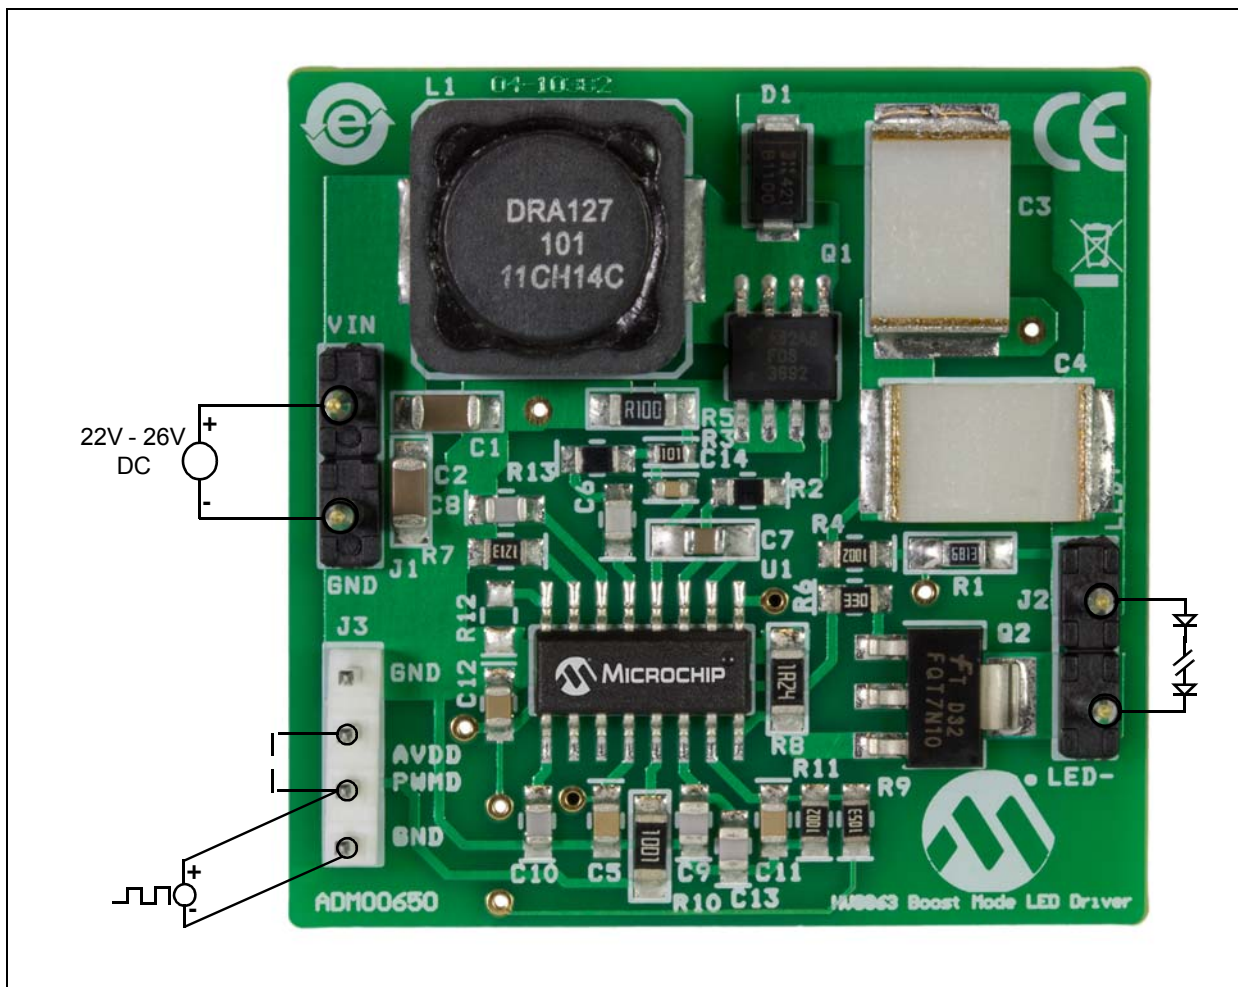
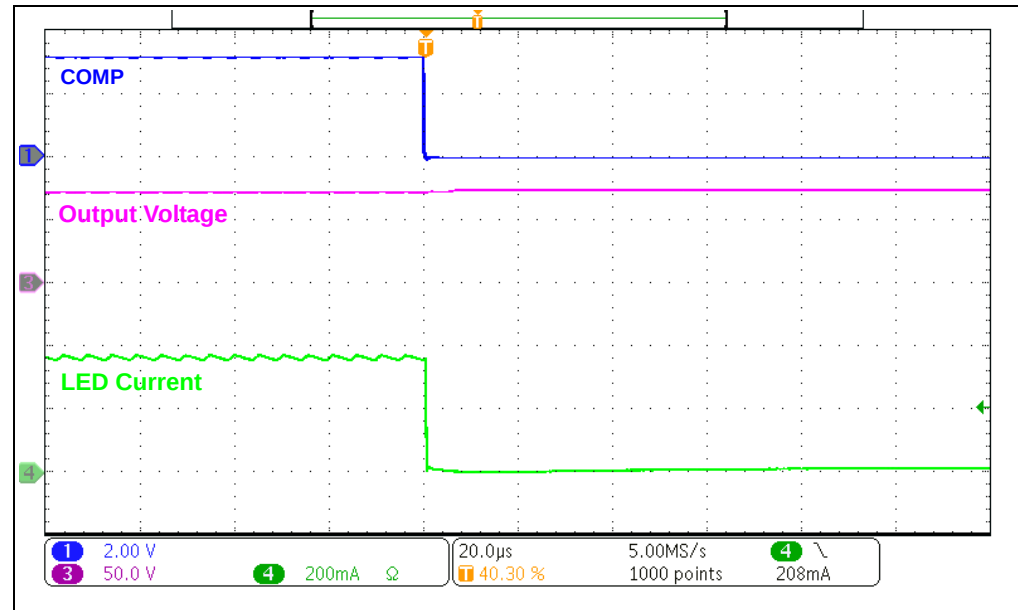

FIGURE 2-1: Power Supply and Load Connection Diagram.
FIGURE C-9: PWM Dimming at $V_{OUT} = 54\text{V}$.
2. Connect a jumper between the PWMD input and AVDD of the J3 Input Connector as shown by the dashed lines in Figure 2-1. To synchronize the switching frequencies of two or more HV9963 demo boards, connect an external push-pull waveform source between the terminals PWMD and GND of J3 connector as shown by the solid lines.
Connect the LEDs' string to the J3 connector. It is very important to use the correct polarity (see Figure 2-1).
1. **Normal Operation:** Connect the input source and the output LEDs as shown in the Connection Diagram (Figure 2-1) and enable the board. The LEDs will glow with a steady intensity.
5. **PWM Dimming:** With the input voltage to the board disconnected, apply a TTL-compatible, push-pull square wave signal between PWMD and GND terminals of J3 connector as shown in the Connection Diagram (Figure 2-1). Turn the input voltage back on and adjust the duty cycle and/or frequency of the PWM dimming signal. The output current will track the PWM dimming signal. Note that, although the converter operates perfectly at 1 kHz PWM dimming frequency, the widest PWM dimming ratio can be obtained at lower frequencies like 100 Hz or 200 Hz (see Figures C-9 — C-17).
Figure C-9 shows various signals during PWM dimming, when PWMD goes low. The LED current falls to zero with a fall time of about 1 μs .